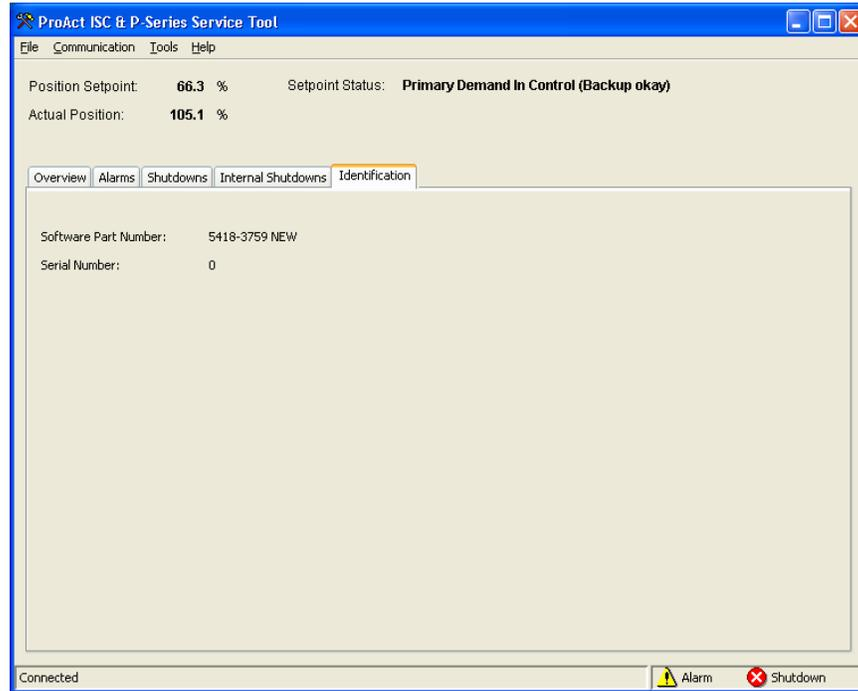

Figure 4-8. Service Tool—Identification Tab
- Identification, (see Figure 4-8)